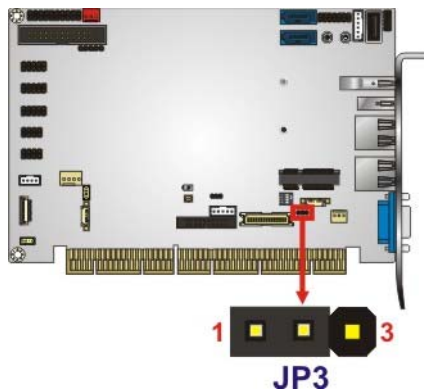

Figure 4-15: LVDS Backlight Mode Selection Jumper Location
- Jumper Location:** See Figure 4-15